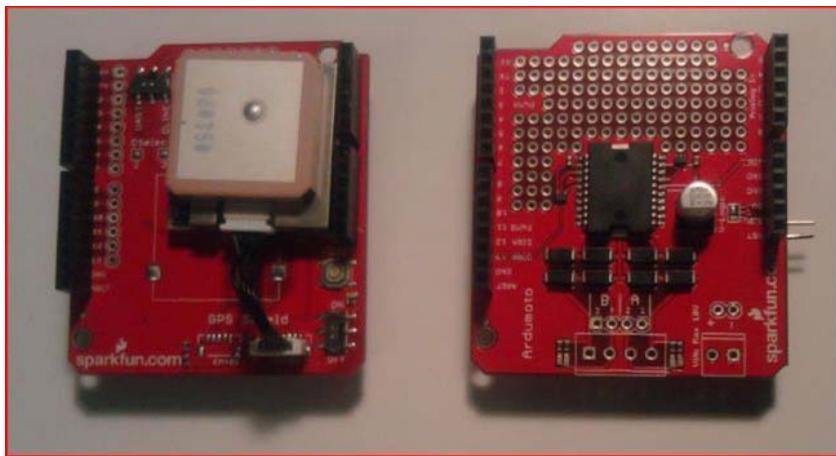

Figure 1-4. A couple of Arduino Shields the GPS Shield on the left and the motor shield on the right.
- *Arduino shields:* We will be using several shields in this book, including the Motor, GPS, GSM, and LCD shields (see Figure 1-4).